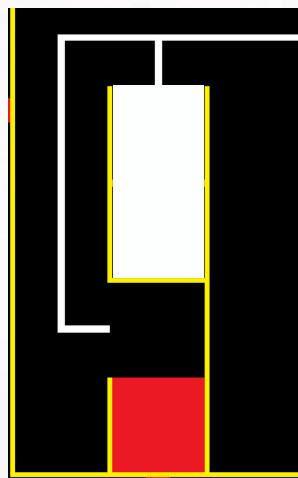

Figure 15 - Task 4 (Hidden Challenge)
- During this navigation, the robot will encounter a hidden challenge that may require it to traverse the designated area (Figure 15) for Task 4.